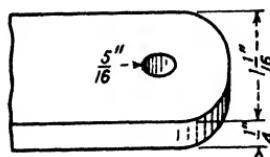

Fig. 322.
- 93.** Find the strength in tension and bearing of the cast-iron lug shown in Fig. 322.